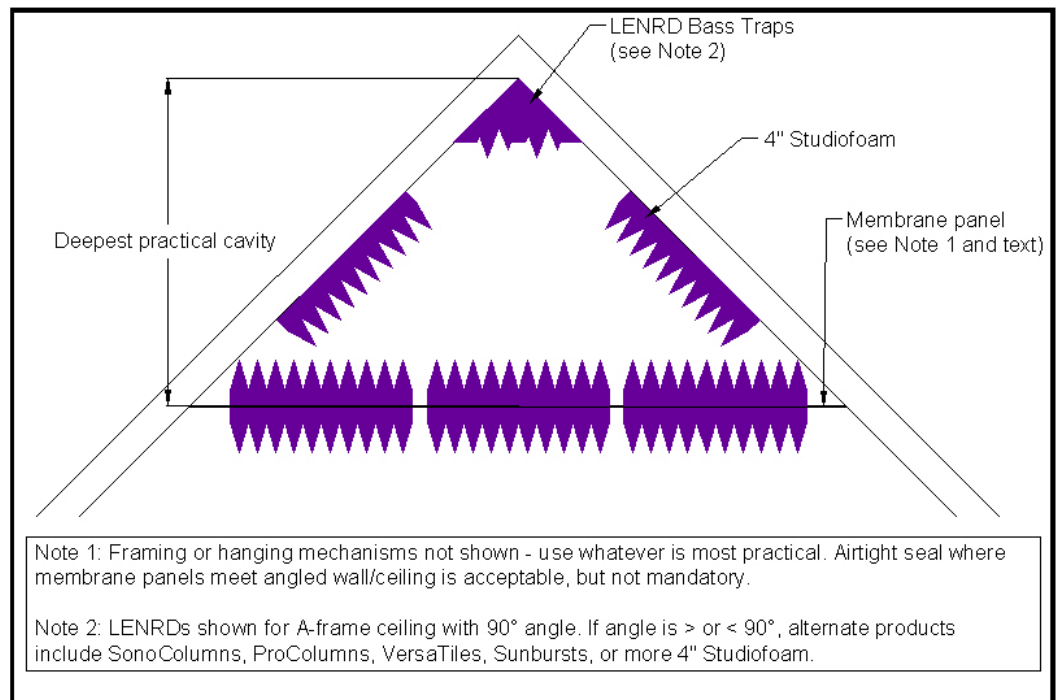

Figure 3.4 - Method for treating a "cathedral" or "A-frame" ceiling
Figure 3.4 shows an example of how we would suggest you to treat a cathedral ceiling for live rooms. This also would work in a control room or studio room you have put in, for example, an attic space because that’s the only place your spouse would let you! In it, we show 4" Studiofoam™ on the two ceiling surfaces that come together to form the peak of the cathedral ceiling. Below that (the farther down, the more effective it is), a horizontal piece of material forms the face of the “trap.” In this example, the face material is ¼" pegboard and it is covered on both sides with 4" Studiofoam. Instead of using two (2) separate pieces of 4" Studiofoam leading up to the peak, a viable and perhaps even more effective alternative is to span the peak with a piece of Studiofoam, forming a small, triangular-shaped airspace behind it. One way to control sound in general and low frequency sound in particular is to force the sound waves to fight their way through multiple layers of different materials and dead air before they can strike the room boundary.